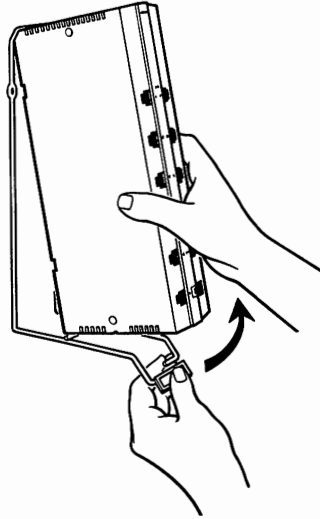

Figure 2-2. Remove the NEU from the frame.
1. Remove the NEU from the wire mounting frame (Fig. 2-2).